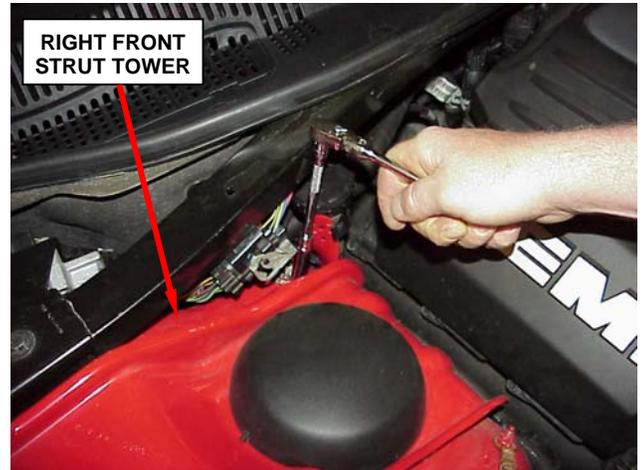

Figure 4 – Strut Tower Connection
- a. Remove and save the nut securing the transmission negative ground cable to the right front strut tower (Figure 4).
- l. Install the transmission negative ground cable eyelet onto the right shock tower stud and install the retaining nut (Figure 4). Tighten the fastener to 106 in. lbs. (12 N·m).